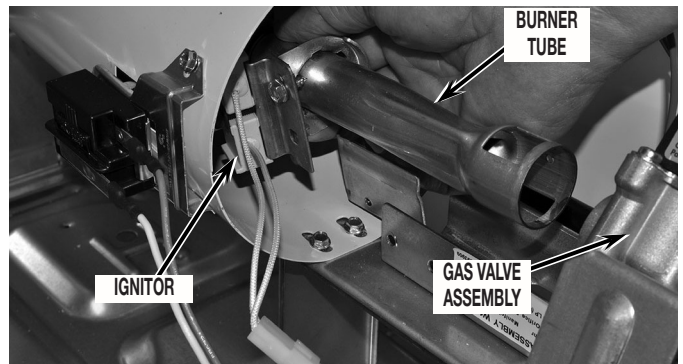

FIGURE 2
- Slide burner tube forward far enough to gain access to orifice. Do not bump ignitor. See *Figure 2*.